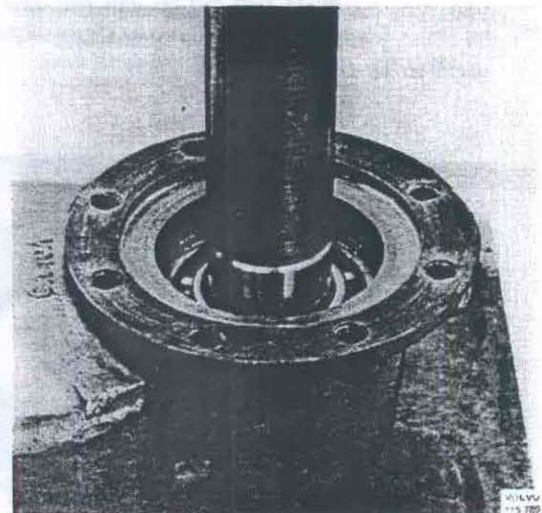
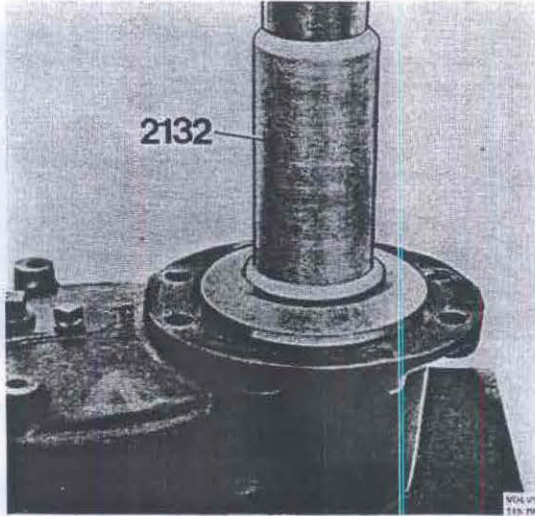

Fig. 46-127. Pressing in the wear ring
Fig. 46-128. Pressing in the seal
4. Press the wear ring into the gear wheel, Fig. 46-127. Grease the sealing ring surfaces. Press down the seal with 2132, Fig. 46-128.